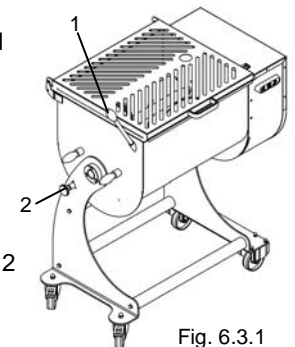

Fig. 6.3.1
- With the bowl in a horizontal position grip the handle on the bowl tilting bar "1" Fig. 6.3.1
- Pull the tank locking knob "2" Fig. 6.3.1
- Once having released the mixing bowl rotate (Fig. 6.3.2) by pulling the tilting bar "1" Fig. 6.3.1.